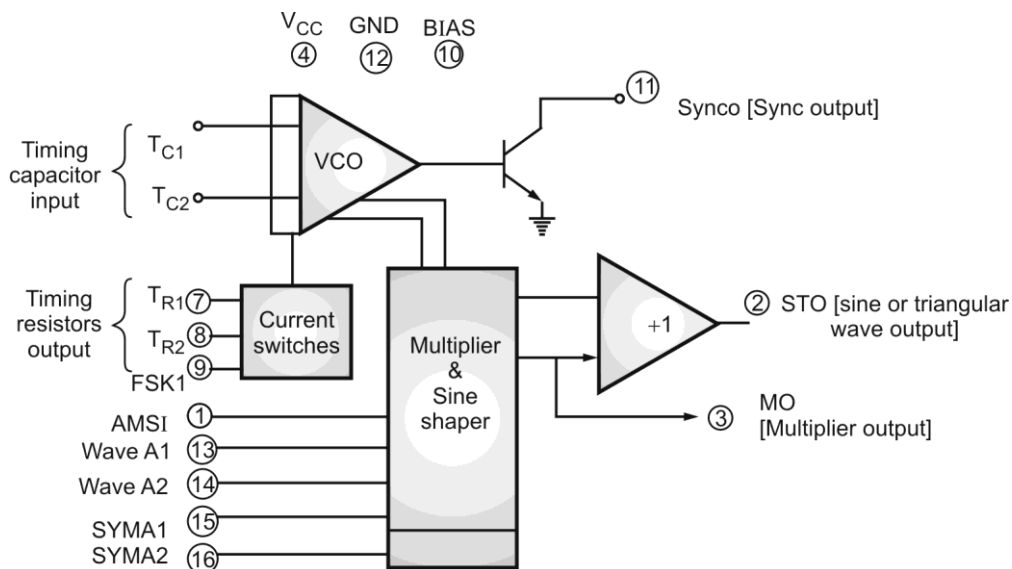

Fig. 5.7.1 : Block diagram of XR-2206
- (1) A Voltage Controlled Oscillator (VCO)
- (2) An analog multiplier and sine shaper
- (3) A unity gain amplifier
- (4) A set of current switches
- The block diagram is shown in Fig. 5.7.1.